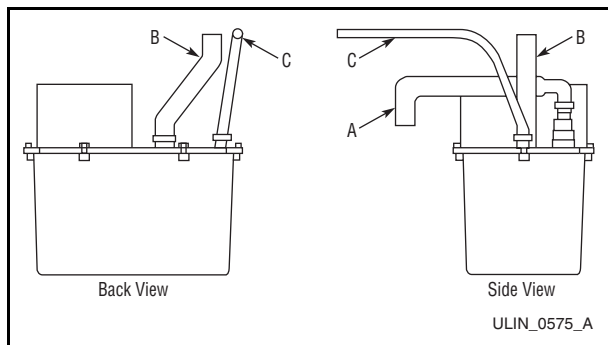

Figure 68
4. Check that the clamps and hose connections are tight at the following areas (**Figure 68**):
- Discharge tube (A)
- Drain tube (B)
- Vent tube (C)